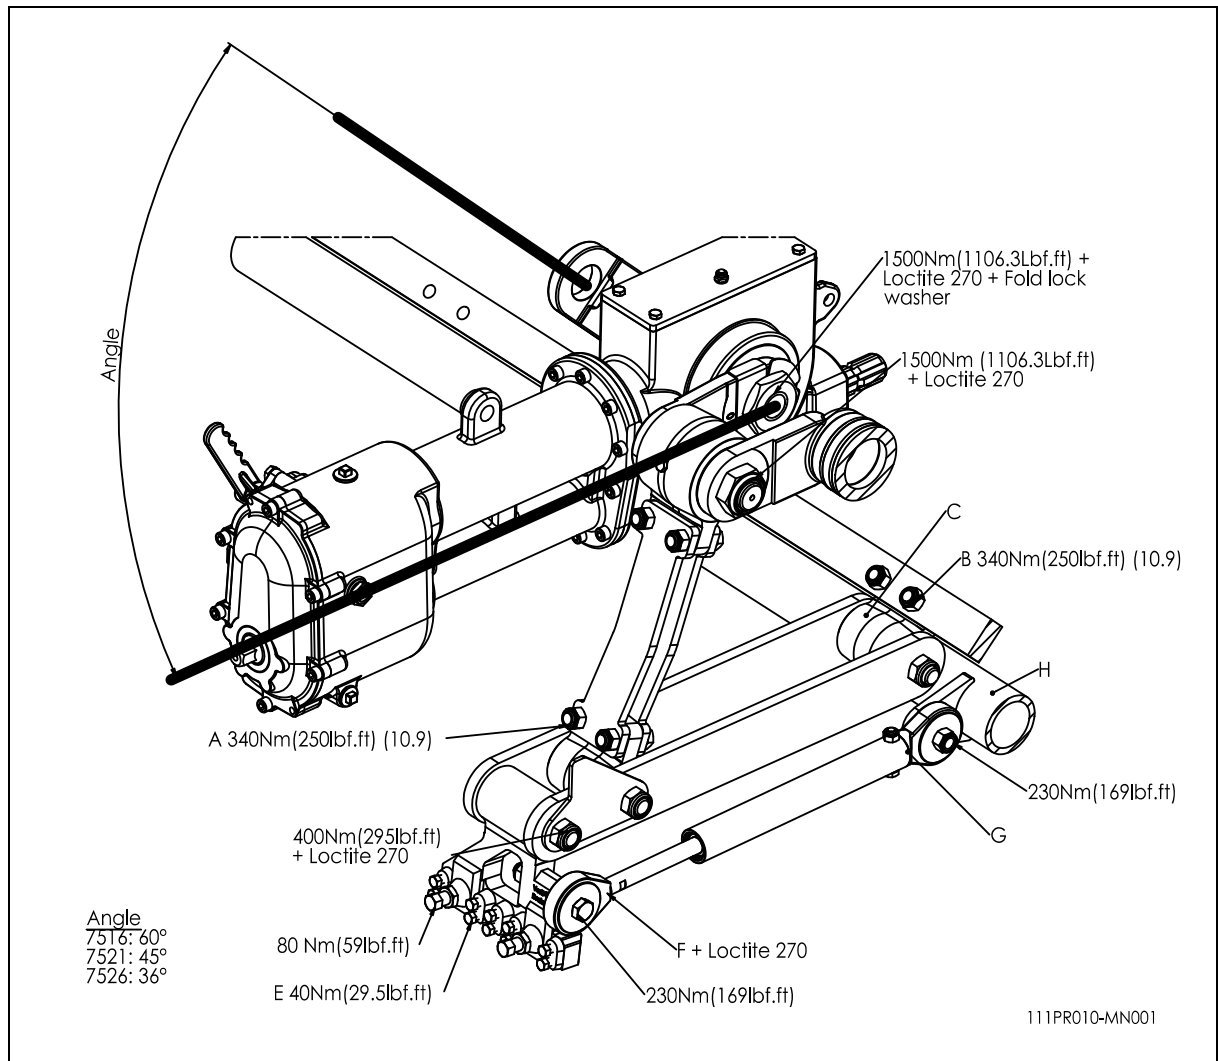

Fig. 8
In fig.8., the torque settings of the most important bolts/nuts are given. For the ones the torque setting is not mentioned, please be sure that they are tightened as a similar size bolt/nut would be tightened. If bolts/nuts are working themselves loose, loctite may be applied.
6. After replacing the crank and/or bearing, replace the parts in the same sequence as they were removed. Use loctite where indicated in fig.8.
In the event that an element is no longer in line with the adjacent elements, the alignment can be corrected as follows (see fig.8.):